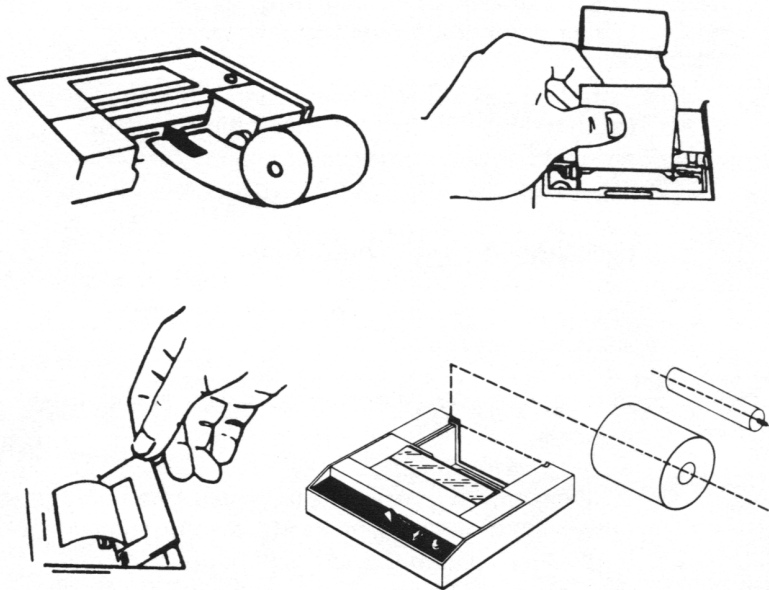

Figure 10-5. Replacing the QCP or QCHSP paper roll
5. Slide the paper's straight edge into the slot between the paper compartment and the printer compartment until about one-quarter of an inch is inserted as shown in Figure 10-5.
9. Put the paper spindle into the paper roll and place the roll and spindle onto the grooves near the back of the printer as shown in Figure 10-5.